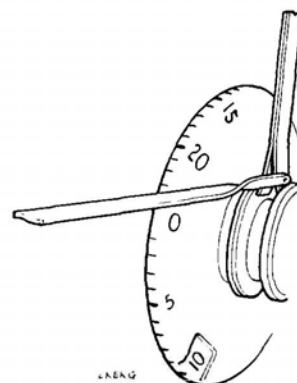

FIG. 9.—MEASURING BRUSH SPRING TENSION
7. Brush spring tension.—The tension of each spring on its collector ring should be 40 ± 20 gm (test) 40 ± 15 gm (readjust), measured as near to the tip as possible (see Fig. 9).